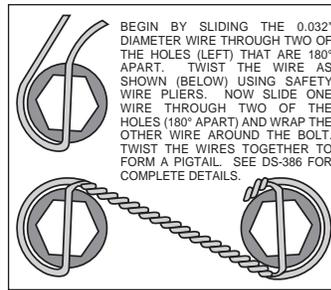

Figure 3. Safety Wire Diagram
- Install wheel studs (8) into the hub (9), Photo 1. Torque to 77 ft-lb. **NOTE:** *There are two five lug patterns in the hub (5 x 4.50 and 5 x 4.75).* Ensure the correct hub stud pattern is being used to fit the wheel application.
- Pack the large inner bearing cone (10) with high temperature disc brake bearing grease (available from your local auto parts store) and install into the backside of the hub (9), Photo 2.
- Install the grease seal (11) by pressing into the backside of the hub (9), flush with the end of the hub, Photo 2.
- The hat/rotor assembly (12) has been pre-assembled at the factory using red *Loctite*® 271 on the mounting bolts and torqued to specification. For an added measure of security, the bolts may be safety wired using standard 0.032 inch diameter stainless steel safety wire as shown in Figure 3. Please refer to Wilwood's data sheet DS-386 (available at www.wilwood.com/Pdf/DataSheets/ds386.pdf) for complete safety wire installation instructions.